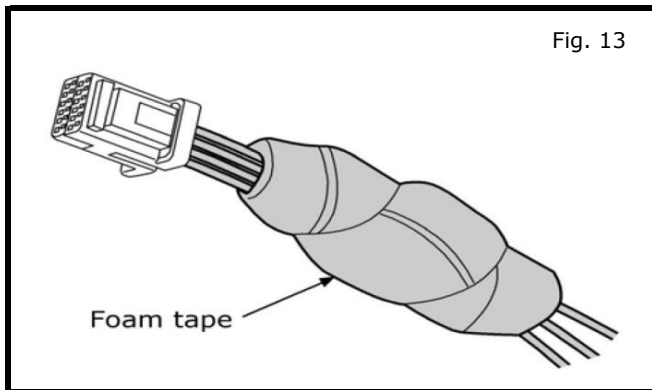

Fig. 13
- b) Remove any foam tape present before adding any positaps as shown in Fig. 13.